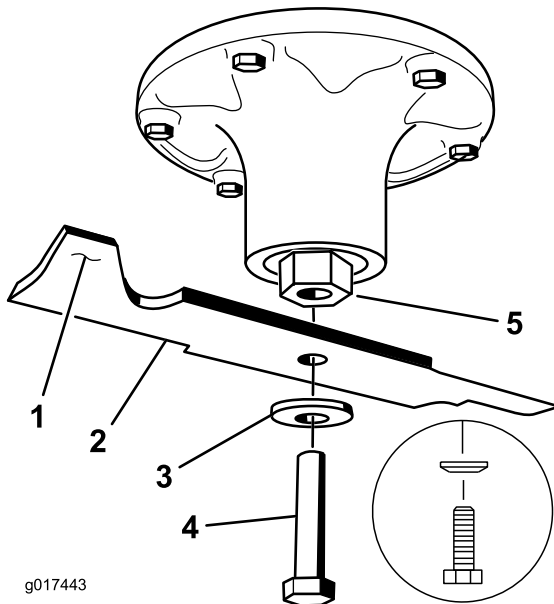

Figure 81
position, the blade is balanced and can be used. If the blade is not balanced, file some metal off the end of the sail area only (Figure 81). Repeat this procedure until the blade is balanced.
2. Install the blade, spring disk and blade bolt. The spring disk cone must be installed toward the bolt head (Figure 81). Torque the blade bolt to 85-110 ft-lb (115-150 N-m).